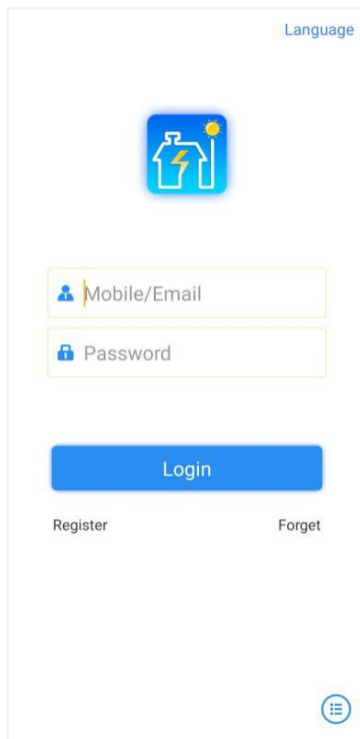

Figure4-1 Login page
Step 2 After registering and logging in, you can view the main page, as shown in Figure4-1.
Step 3 After registering, login according to the registered **mobile phone/Email** and **password**, as shown in Figure4-1.